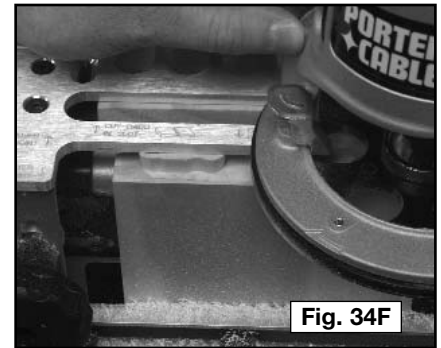

Fig. 34F
Step 8 - Make a cut from left to right removing the remainder of the excess material (Fig. 34F).